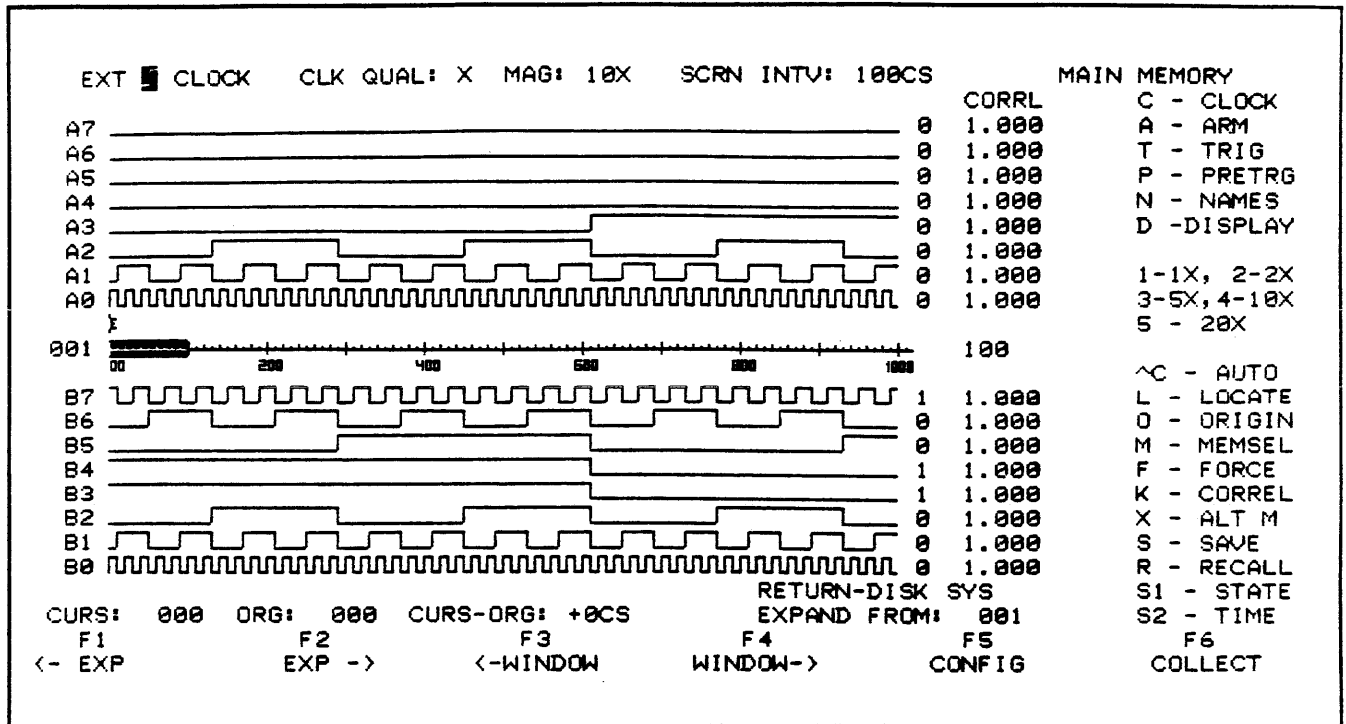

Figure 2-20: Correlation Display
- a. Press the COLLECT key to take a new data collection. Then press the SAVE(S) key and observe the flashing SAVED message. To compare main and auxiliary data press K(CORREL) key. Note that a correlation factor of 1.000 is displayed at the right of each channel. This factor indicates that the 1000 bits in each main memory channel compares 100% with the 1000 bits in the corresponding auxiliary memory channel. Comparisons are done on a bit-for-bit basis. Refer to Figure 2-20. Thus, if a correlation factor of .995 were displayed, it would indicate that 5 bits out of 1000 were different, or 99.5% correlation.
- c. In order to view the actual effect of the short on channel B5, press the M(ALT MEMORY) key. As shown in Figure 2-20, channel B5 should cycle between a 1 and a 0. Return to the main memory by pressing M. Also return to a 1X magnification by pressing the 1 key.